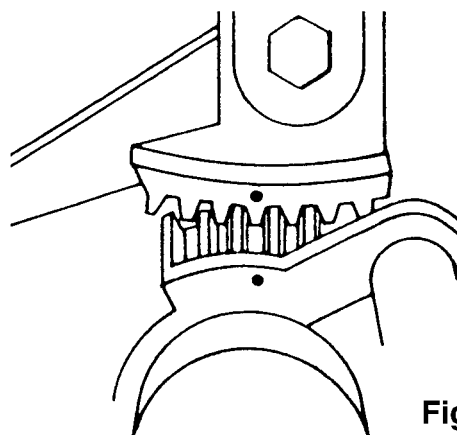

Fig. 43
Before fitting the automatic unit, make sure that the two dot marks on the toothed segments are exactly opposite each other (fig. 43).
- Loosen the three screws 94, 95 and 96 and adjust the two gears 97 and 98 so that they are parallel and have no play (fig. 43).